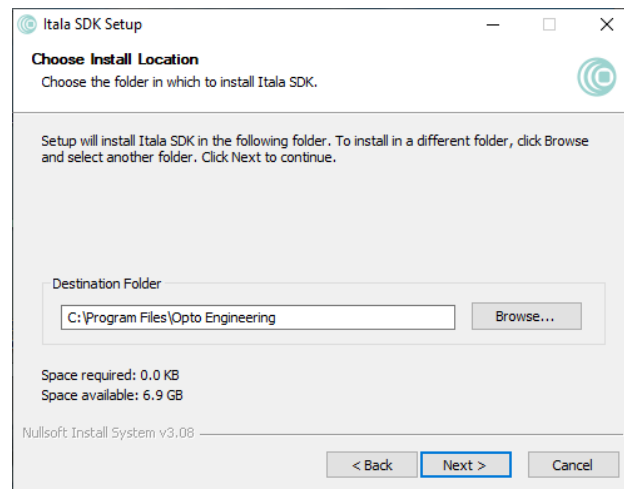

Figure 11: Itala SDK destination folder window.
4. Choose the destination folder (Fig.11).